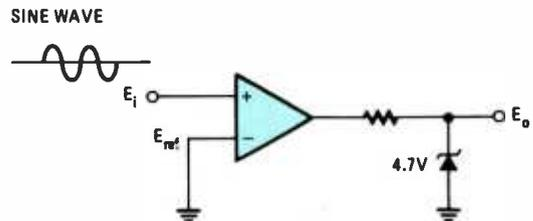
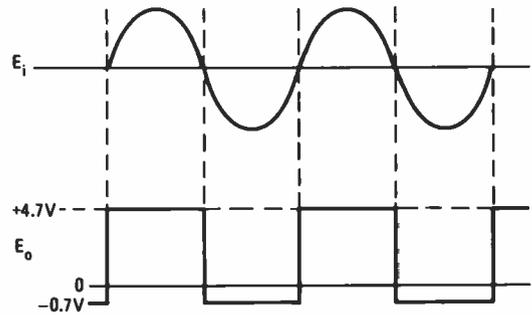
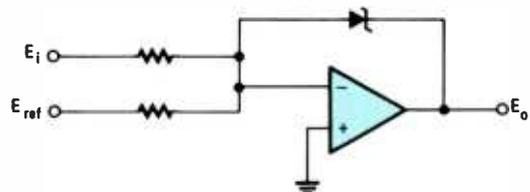

Fig. 17—This op-amp comparator's input voltage is a sinewave.
Fig. 18—These are the input and output waveforms of a comparator with $E_{ref} = 0$.
Fig. 19—An alternate comparator circuit. The polarity of E_i and E_{ref} must be opposite.
Refer to Fig. 17. The reference input is _____ volts. Draw the output if the input is a sine wave.
33. (zero, See Fig. 18) In Fig. 17, the reference is ground or zero volts. Therefore, the output will switch from -0.7 to +4.7, or +4.7 to -0.7 when $E_i = 0$. That will happen when the sinewave input varies from + to - or - to +. The circuit, therefore, converts a sinewave into a squarewave as shown in Fig. 18.
Another way to connect an op-amp as a comparator is shown in Fig. 19. The + input is grounded and two input resistors are used in a summing configuration to accept the
input and reference signals. A Zener diode is used as the feedback element, and as a result it will produce outputs of -0.7 and $+4.7$ volts, the same as for the circuit in Fig. 17. The only special requirement of the circuit in Fig. 19 is that the polarity of E_i and E_{ref} be opposite one another. Otherwise, the circuit switches from binary 0 to 1 or 1 to 0 when $E_i = E_{ref}$.